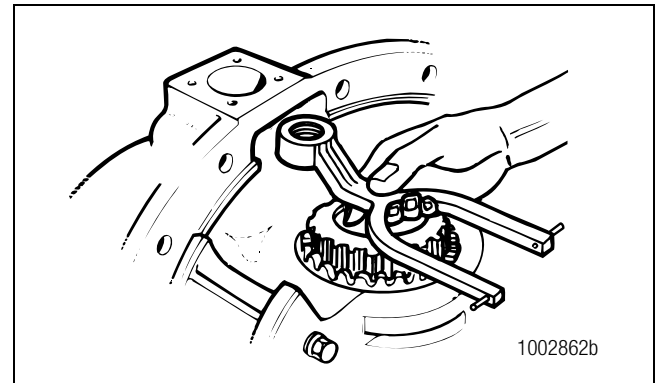

Figure 6.27
- Install the shift fork into its correct position in the carrier case. Figure 6.27.